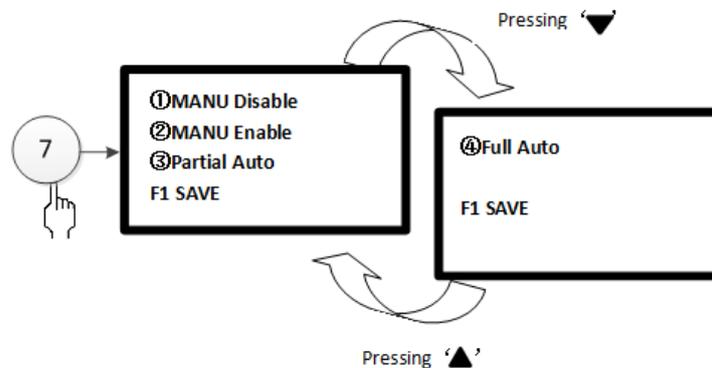

Fig. 3-25
⑦ Association Mode
Enter the screen as shown in Fig. 3-25 by pressing number 7 or moving cursor to select ⑦. In this screen, pressing Up and Down key choose ① Manual Disable ② Manual Enable ③ Partial Auto Press “F1” to save after selection.